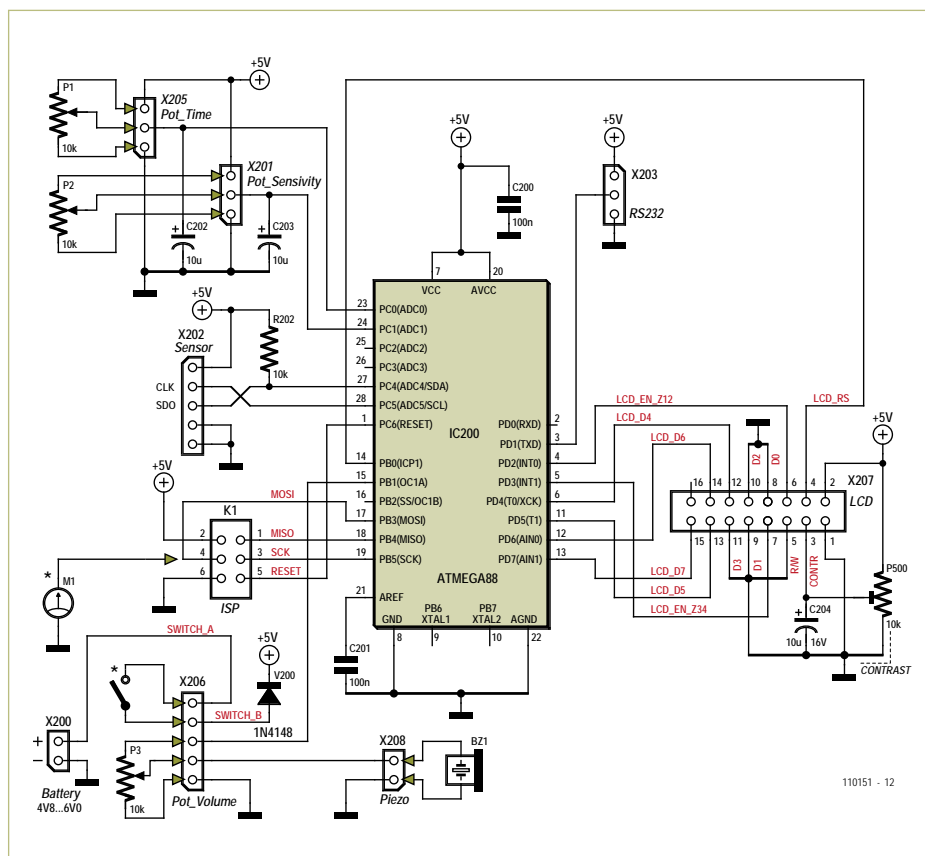

Figure 5. Circuit diagram of the processor board.
**Figure 5** shows the circuit diagram of the processor board. The four-way cable to the sensor board is connected at connector X202. Connectors X201 and X205 are provided for potentiometers P1 (10 k $\Omega$ ) and P2 (also 10 k $\Omega$ ), which are used to adjust the time constants of the digital process-